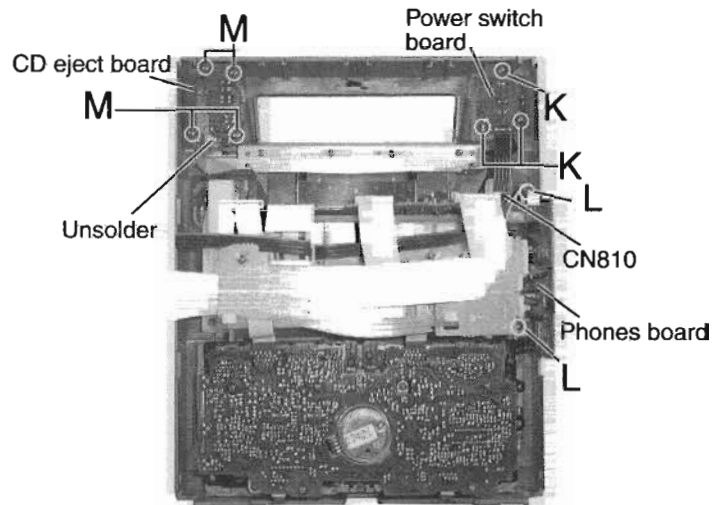

Fig.15
**■ Removing Each Board of the Front Panel Assembly** (See Fig.15 and 16)